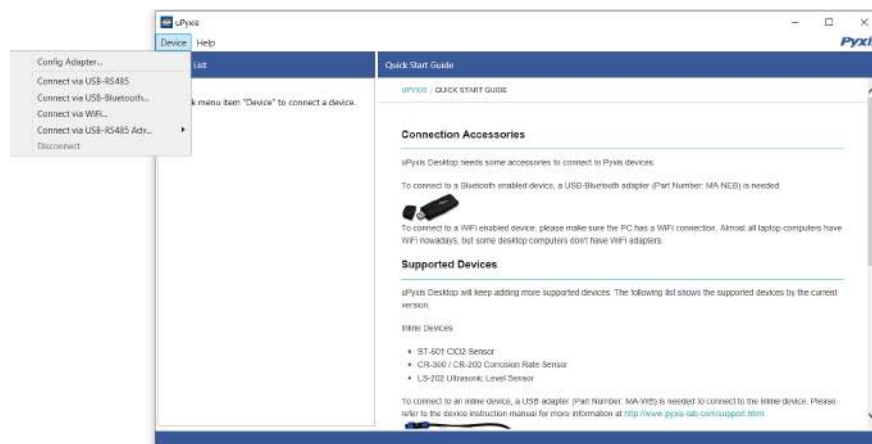

Figure 11.
3. On uPyxis® Desktop App, click Device → **Connect via USB-Bluetooth** (Figure 11).
4. If the connection is successful, the ST-772 Series and its Serial Number (SN) will be displayed in the left pane of the uPyxis® window.